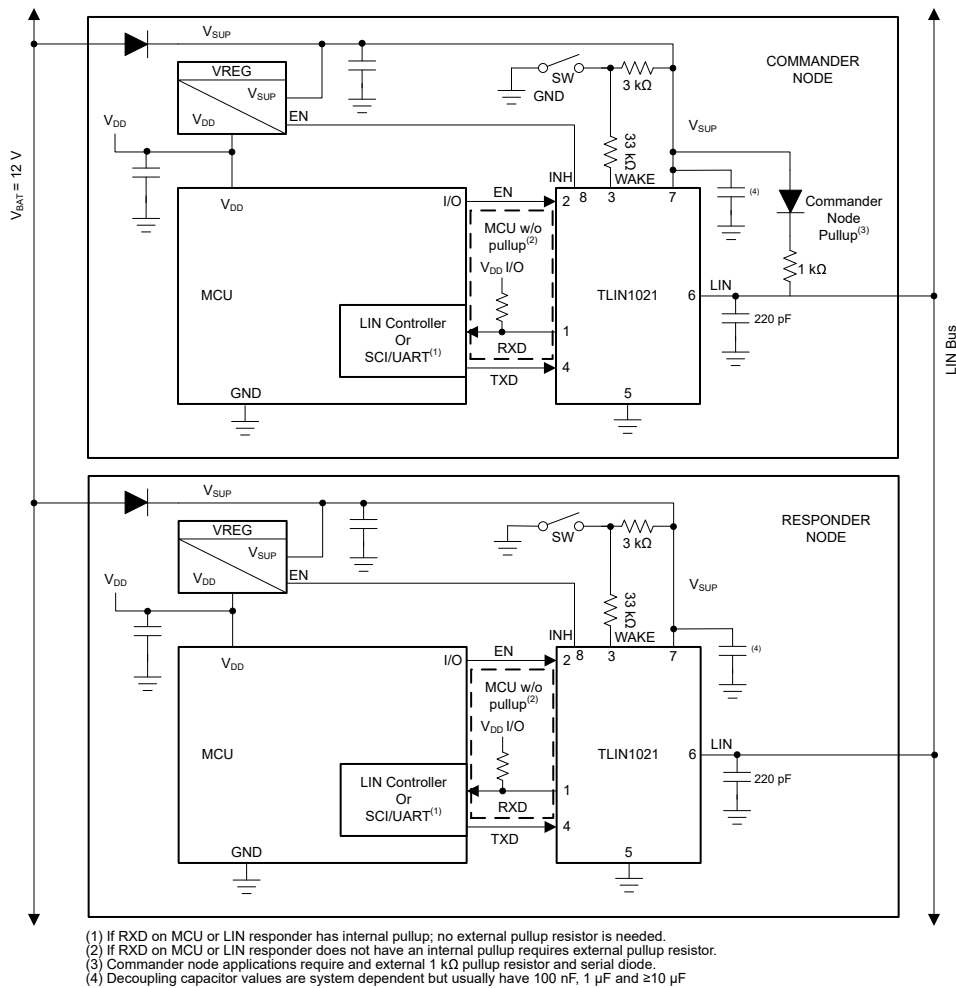

图 10-1. Typical LIN Bus
The device integrates a 45 kΩ pull-up resistor and series diode for responder applications. For commander applications, an external 1 kΩ pull-up resistor with series blocking diode can be used. 图 10-1 shows the device being used in both commander and responder applications.
- **Pin 2 (EN):** EN is an input pin that is used to place the device in low-power sleep mode. If this feature is not used the pin should be connected to the supply voltage for the controller through a series resistor using a pull-up value between 1 k $\Omega$  and 10 k $\Omega$ . Additionally, a series resistor may be placed on the pin to limit current on the digital lines in the case of an over voltage fault.
- **Pin 6 (LIN):** The LIN pin connects to the TLIN1021-Q1 to the LIN bus. For responder applications a 220 pF capacitor to ground is implemented. For commander applications an additional series resistor and blocking diode should be placed between the LIN pin and the VSUP pin, see 图 10-1.